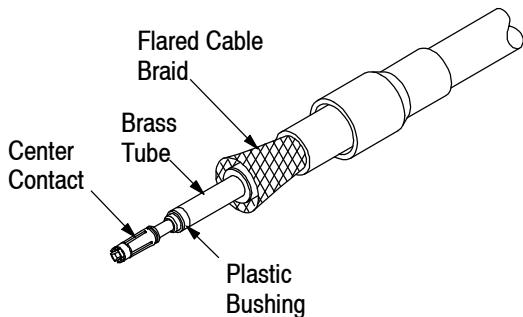

Figure 3
2. For connectors that include the plastic bushing and a brass tube, flare the cable braid, then slip the tube (flared end of first) then the bushing over the cable dielectric. See Figure 3.
3. Insert center conductor into center contact. The center contact shoulder must be positioned against the cable dielectric as shown in Figure 3. Be sure that the cable insulation does not enter the wire barrel of the center contact.